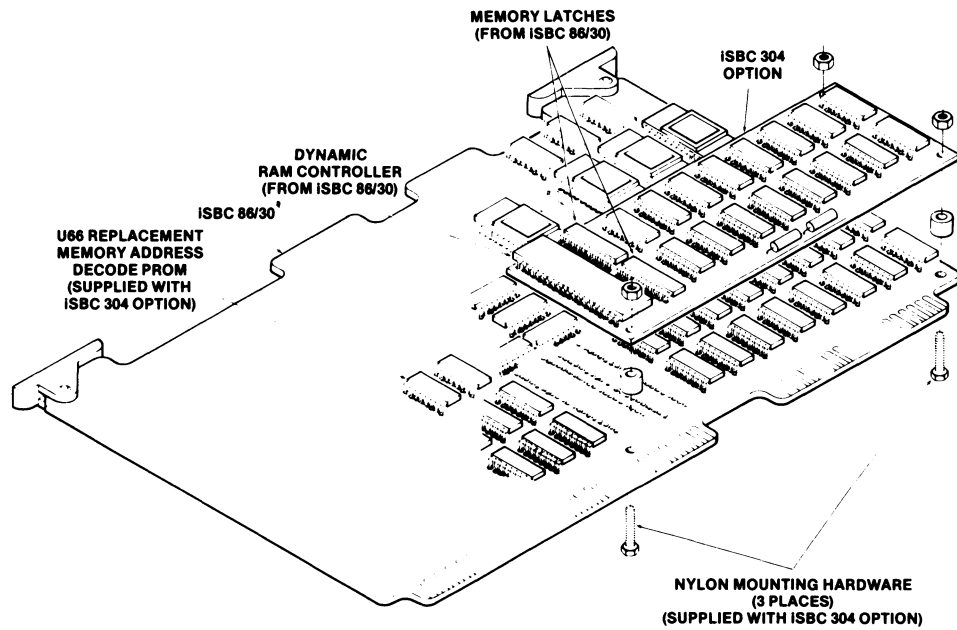

Figure B-1. iSBC™ 304 RAM Expansion Multimodule Board Orientation
6. Insert the iSBC 304 board mating pins into socket U72 and other mating pins, orienting the board as shown in Figure B-1.
8. Place nylon spacer between the iSBC 86/30 board and the iSBC 304 board at one of the holes shown in Figure B-1.